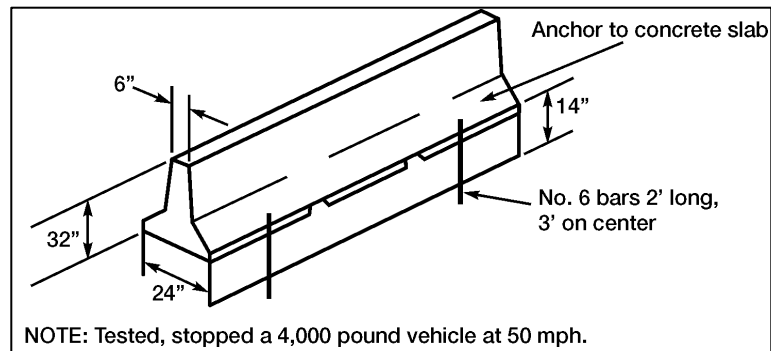

Figure 052-195-3066-15. Jersey Barrier
b. Ensure barrier materials (figure 052-195-3066-16) are emplaced.